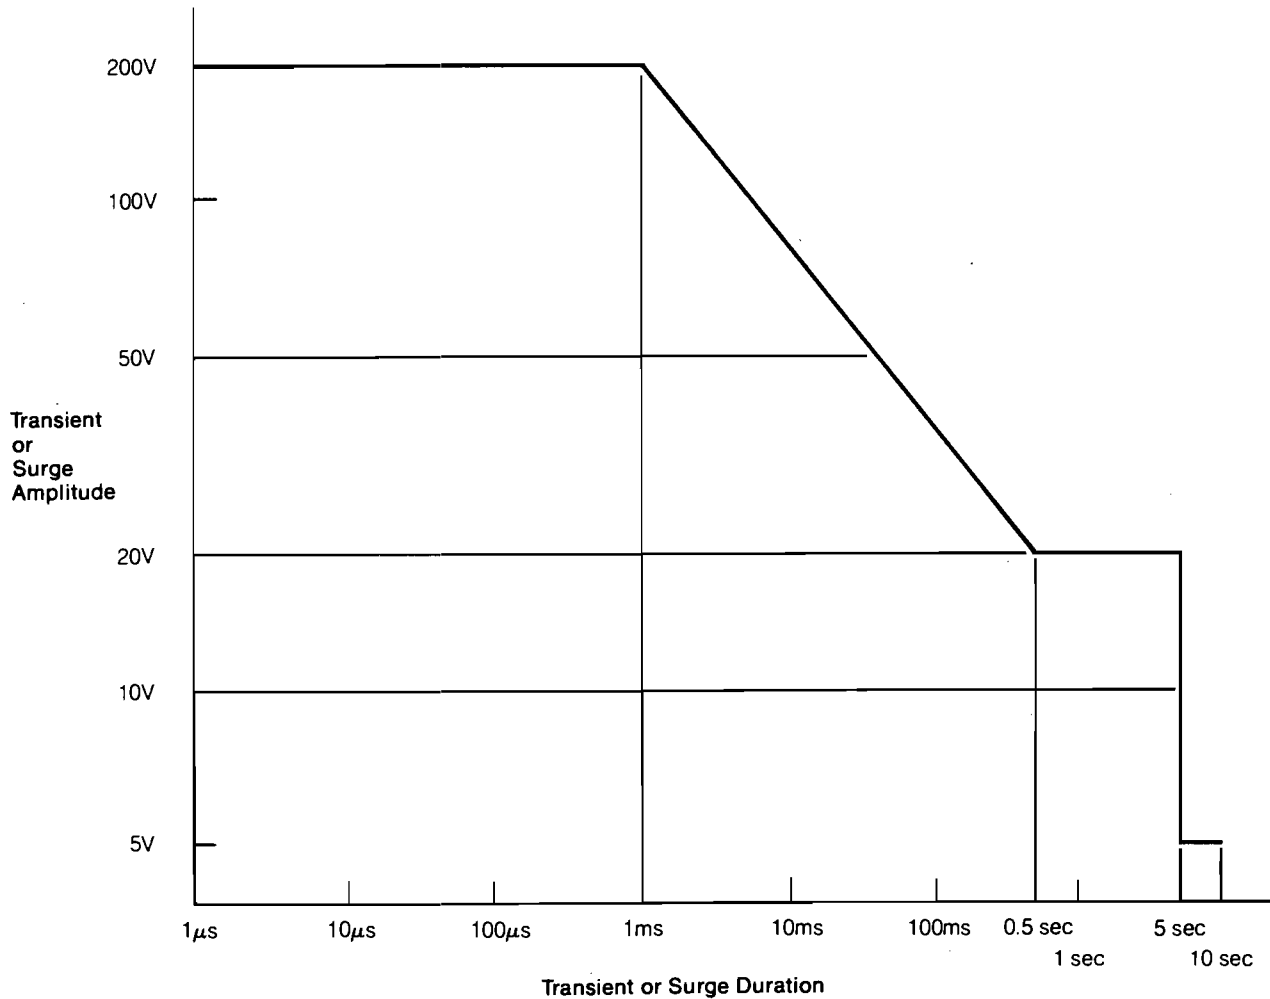

Figure B-1. Allowable Transient and Surge Voltage Amplitudes
- o Power line transients Power transients and interference less than specified value for Model 26 (See Figure B-1)